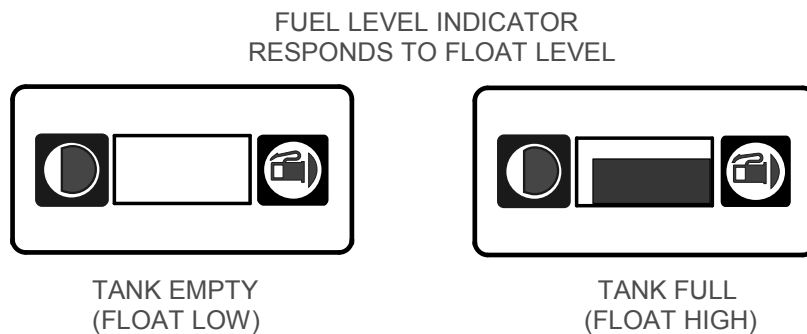

Figure 3-7: Fuel Gauge Indications
- (1) Check fuel level at fuel level gauge (see Figure 3-7).
- (2) If fuel level is low, refill with unleaded automotive gasoline.